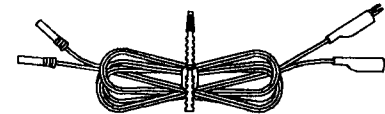
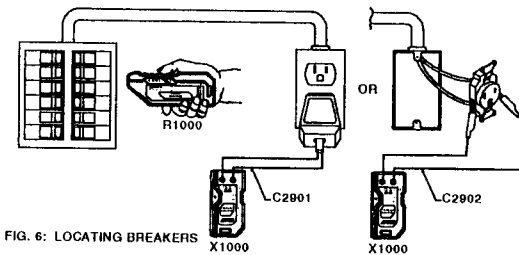

FIG. 5: C2902 CORDSET
FIG. 6: LOCATING BREAKERS
- Using either the C2901 Pigtail Cord Set for 120V receptacles (see Fig. 4), or the C2902 Alligator-Clip Banana Plug Cord Set (see Fig. 5), connect the X1000 Transmitter to the circuit (see Fig. 6). When using the C2902, always connect to ground first and disconnect from ground last.